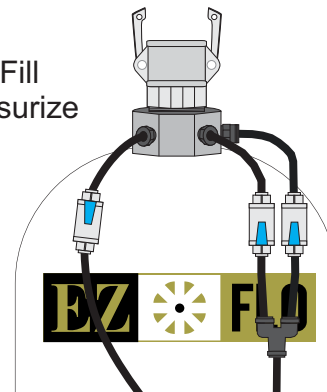

Figure 5-2
Step 7 - Replace fill port cap or close fill valve. Open the valves to pressurize. Inspect tank and connections for leaks and tighten if necessary (figure 5-2).